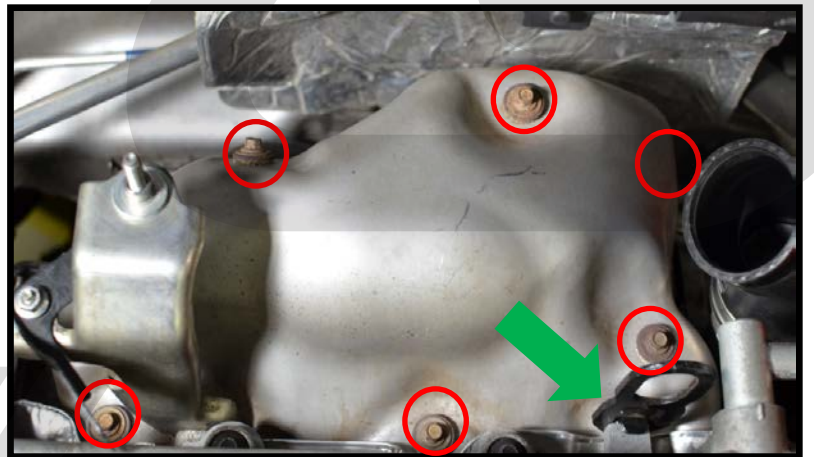

Figure 2b
- b) Remove the six 8mm bolts circled in red in Figure 2b, then remove the heat shield.
- c) Remove the 13mm bolt holding the engine hoist bracket and remove the bracket. Green arrow in Figure 2b.